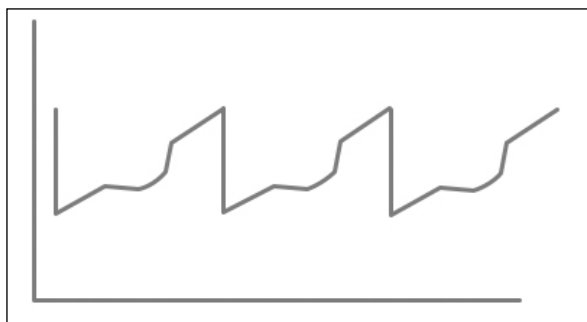

Figure 2. Signal at Detector
- The light is then focused on a detector (figure 2).